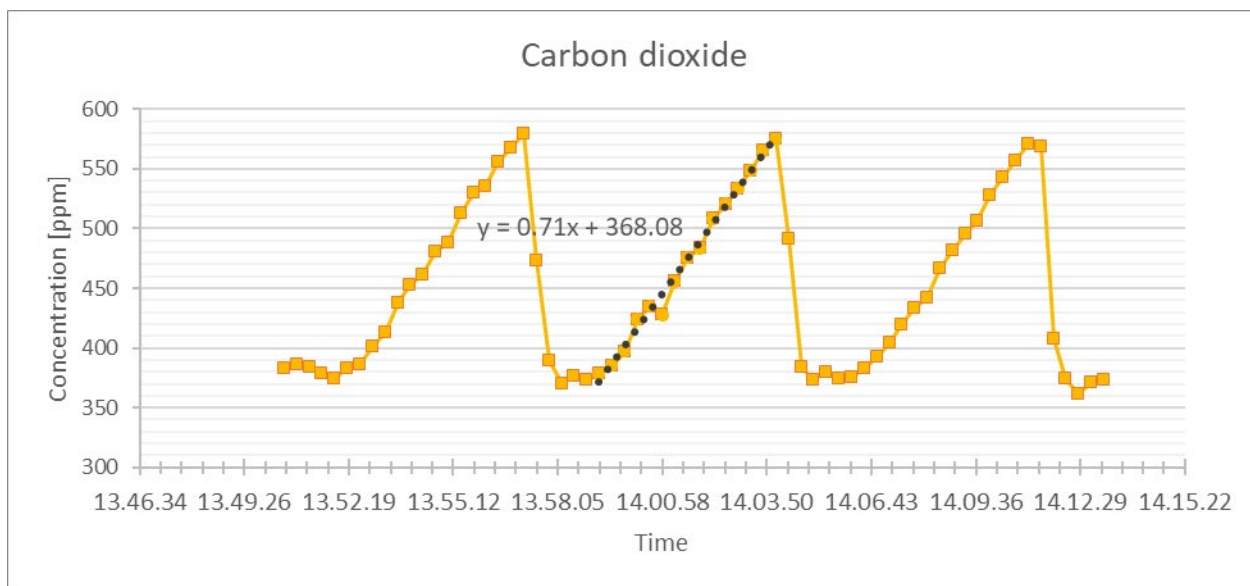

Figure 2.  $CO_2$  soil flux data with a linear regression fitted to  $CO_2$  concentration
4. The slope of the regression shown in figure 2.